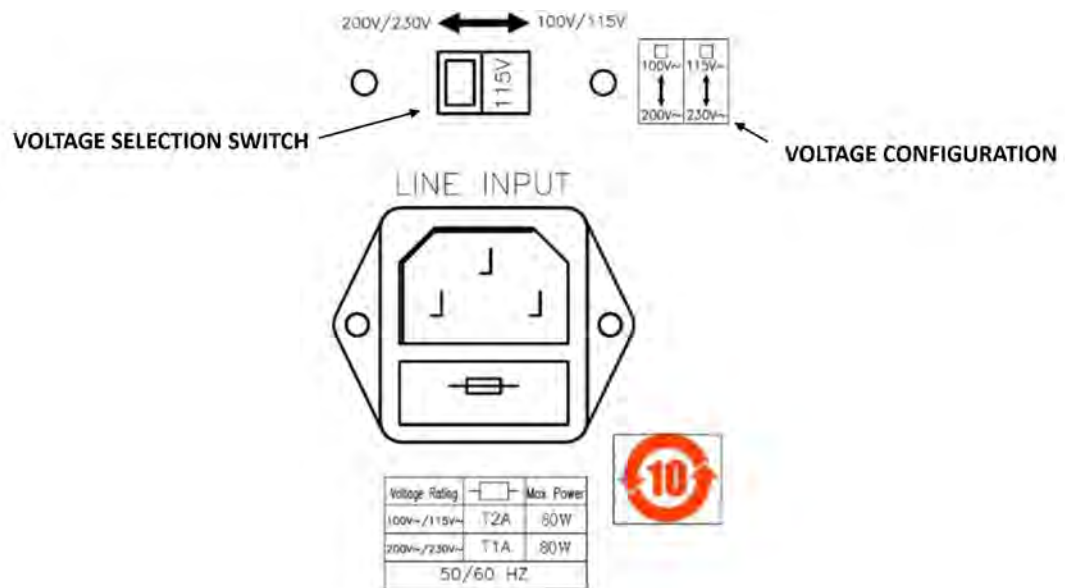

Figure 5-2: AC Input Voltage Selection
2. Refer the drawing on the rear panel of 5L Series load in Figure 5-2, set the switches to the proper voltage as indicated below.